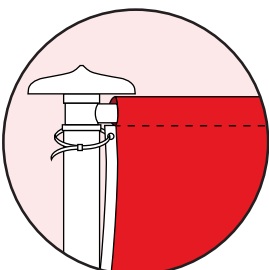
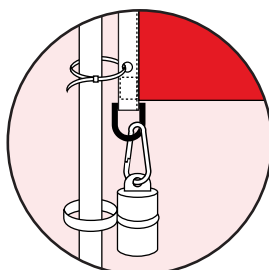

Fig 6a.
Fig 6b.
6. Secure plastic ties through the eyelets and around the pole. DO NOT OVER-TIGHTEN (see Fig 6a). At the bottom of the flag attach the D-ring to the metal clip on the weight. (see Fig 6b)